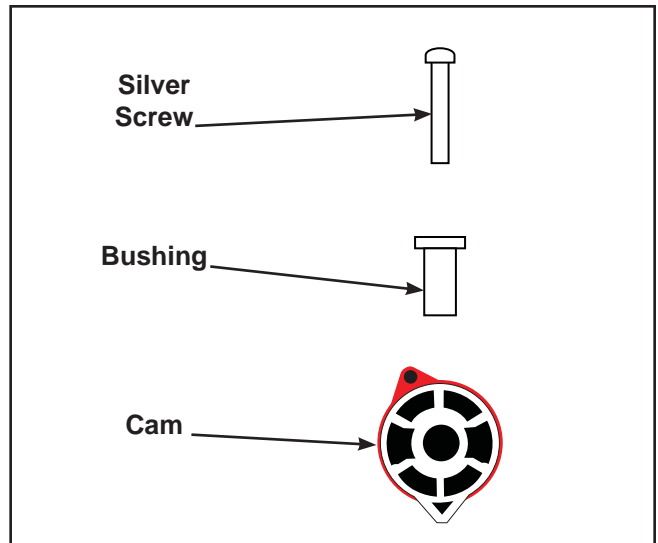
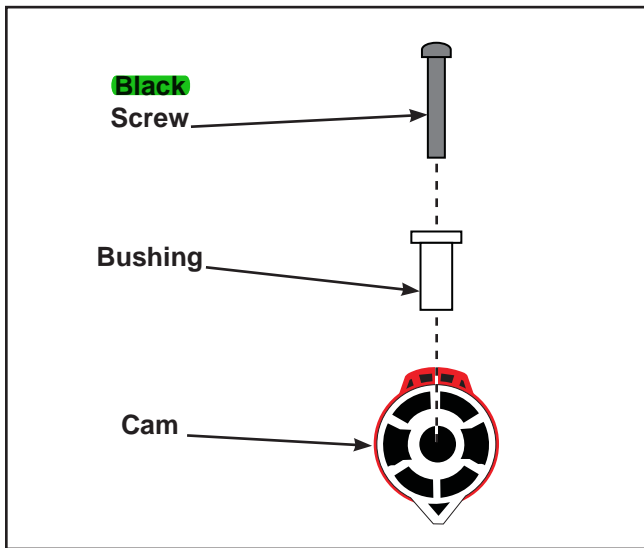

Figure 6
Figure 7
B. Remove the bushing from the cam and set aside. See Figure 6.
B. Assemble the cam by placing the **black** screw and bushing (from step 6B) into the cam. See Figure 7. **NOTE:** The new cam has a larger red tab. Compare the cam shapes in Figures 6 and 7.